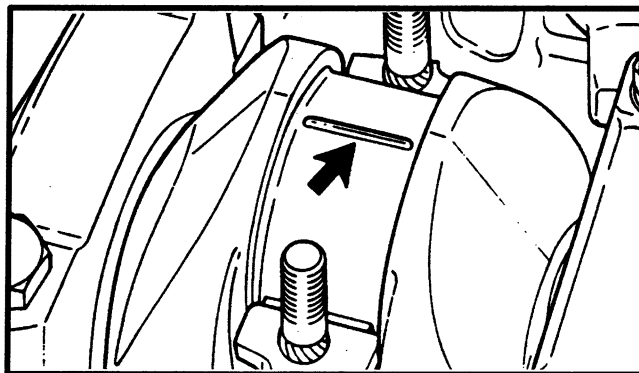

FIGURE 21. PLASTIGAGE® ON A BEARING JOURNAL
4. Clean the oil from the bearing half and journal to be checked. Put a piece of Plastigage across the full width of the bearing journal as shown in FIGURE 21. Do not rotate the crankshaft when the Plastigage is between the main bearing and its journal.
- a. Put a piece of Plastigage across the full width of the bearing journal as shown in FIGURE 21. Do not rotate the crankshaft when the Plastigage is between the bearing and its journal.